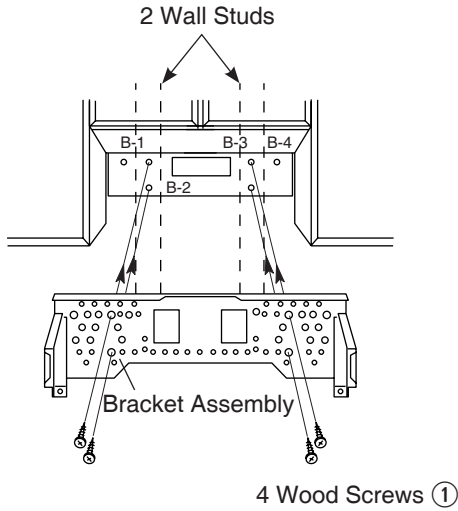
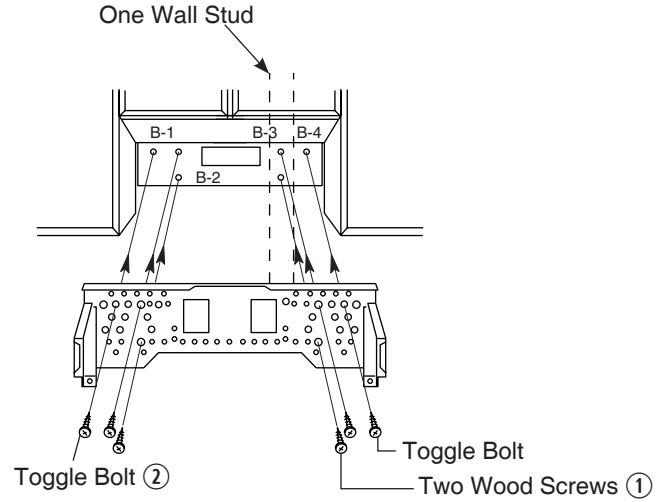

Fig. 3-2
Fig. 3-3
2. Centre the bracket assembly ⑩ against the wall and top cabinet.
3. Drill holes. (Fig. 3-2 or Fig. 3-3)